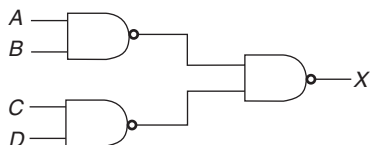

Fig. 4.51
4.46 Draw the external connections to a 4011 CMOS IC to form the circuit shown in Fig. 4.51.